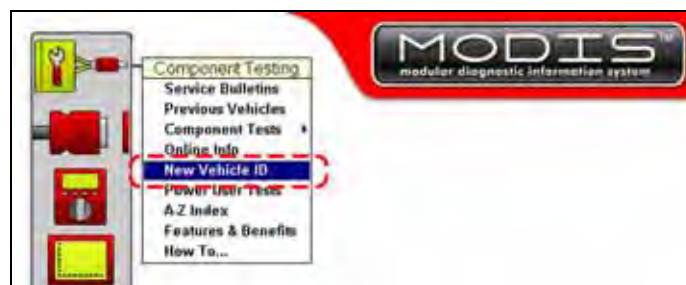

Figure 4-3 Sample New Vehicle ID selected
1. From the main menu, select **Component Tests > Component Testing > New Vehicle ID** (Figure 4-3).